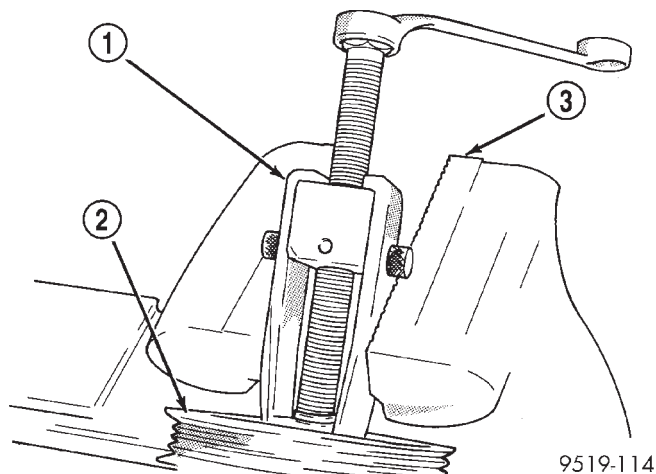

Fig. 20 Removing Pulley From Power Steering Pump Shaft
(2) Mount Puller, Special Tool C-4333 or C-4068 on power steering pump pulley. Mount power steering pump and puller in a vise (Fig. 20) to keep shaft of power steering pump from turning when removing pulley.
(3) Remove the drive pulley from the shaft of the power steering pump.
(4) Replace power steering pump pulley if bent, cracked, or loose.